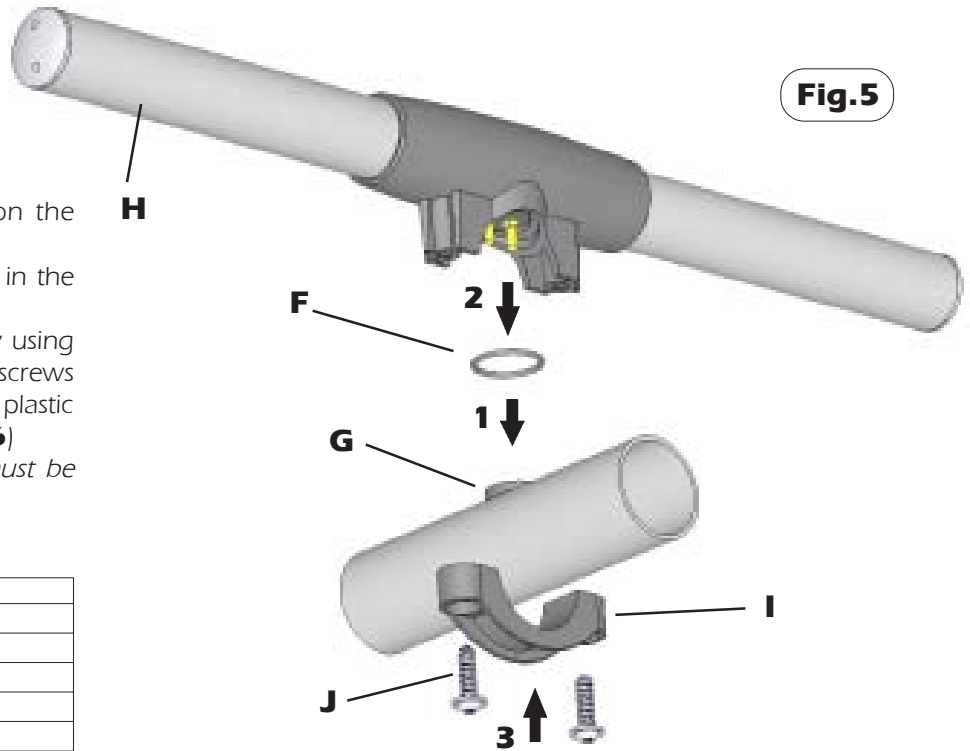

Fig.5
- 1) Place the O-ring gasket **F** on the dipole connector **G**. (See **Fig.5**)